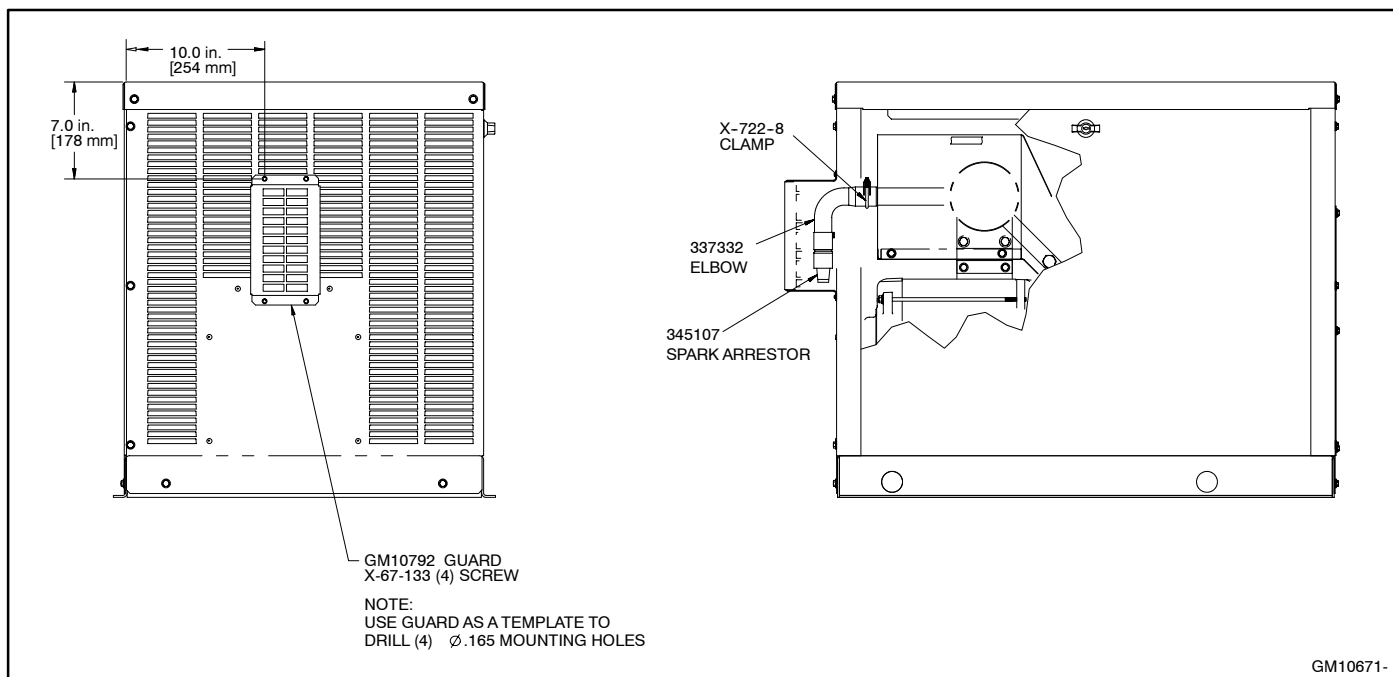
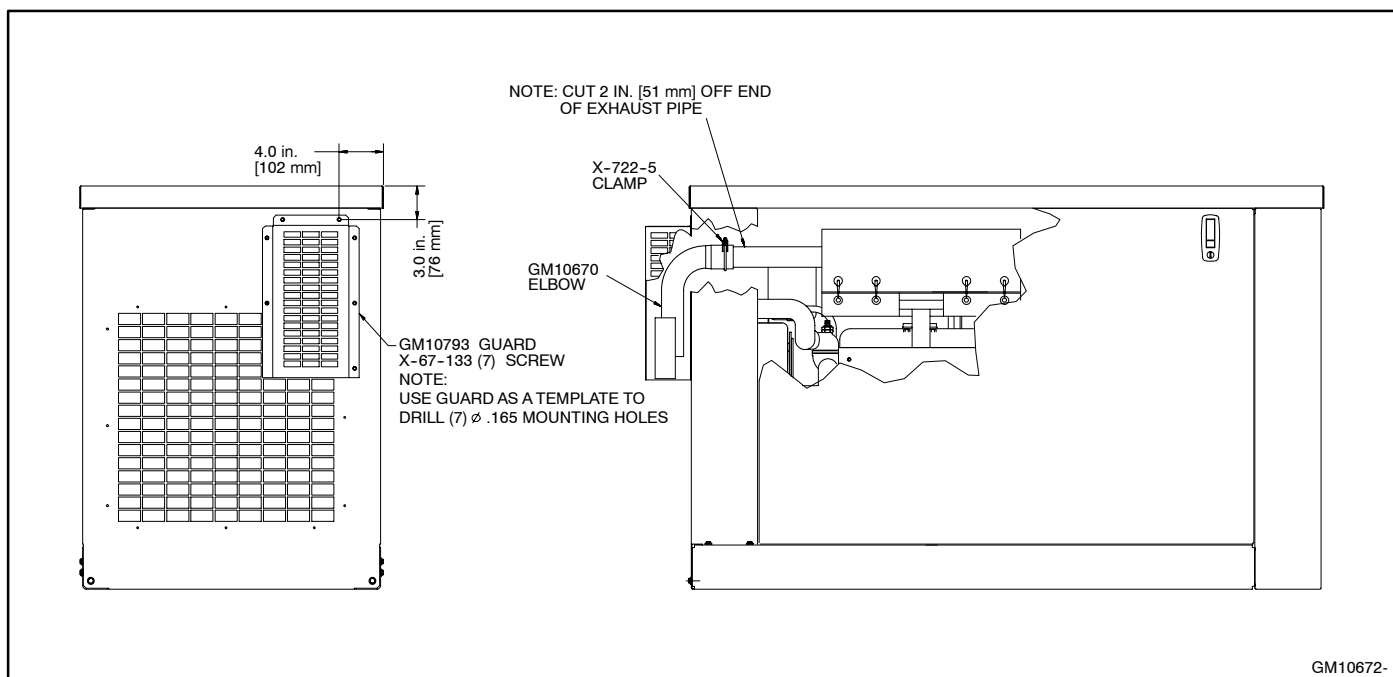

Figure 1 Installed Exhaust Guard and Elbow Kit GM10671-KP1, 8.5/11RMY Generator Sets
Figure 2 Installed Exhaust Guard and Elbow Kit GM10672-KP1, 17/22RY Generator Sets
See Figure 1 and Figure 2 for installed kit illustrations.
9. Measure, mark, and drill one 0.165 in (4.2mm) hole at the location shown in Figure 1 or Figure 2.
10. Secure the exhaust guard (GM10792 or GM10793) over the exhaust elbow with one of the screws (X-67-133) provided. Using the guard as a template, mark the locations of the remaining mounting holes on the generator set housing. See Figure 1 or Figure 2 for the guard and mounting hole locations.